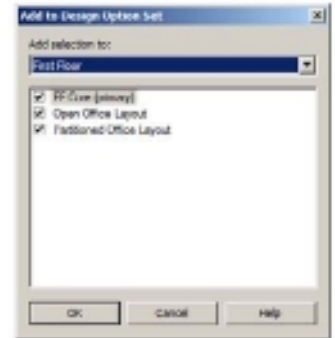

Figure 15.8
4. Select the furniture to move from the main model (making use of picking, windowing, and/or filters), and place it within one or more of the design options created earlier. To do this, with the objects selected, click the Design Options status bar's Add To Set button. In the Add To Design Option Set dialog box (see Figure 15.8), choose which design option set this should be part of and which design option (one or more) you want to move the selected objects into.